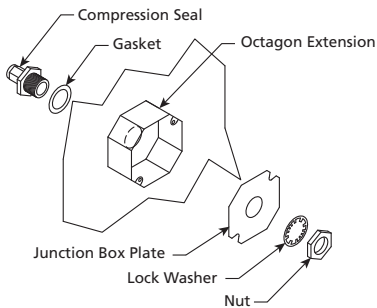

Figure 4 — Components
2. Insert the Evergreen compression seal fitting into the hole from the inside of the hood, making sure the gasket is placed on the fitting before inserting it into the hole. Place the junction box provided over the fitting on top of the hood, keeping the fitting centered in the box. Install the lock washer and 1" nut on the threaded portion of the compression seal fitting within the junction box. Tighten securely holding the junction box in place. See Figure 4.